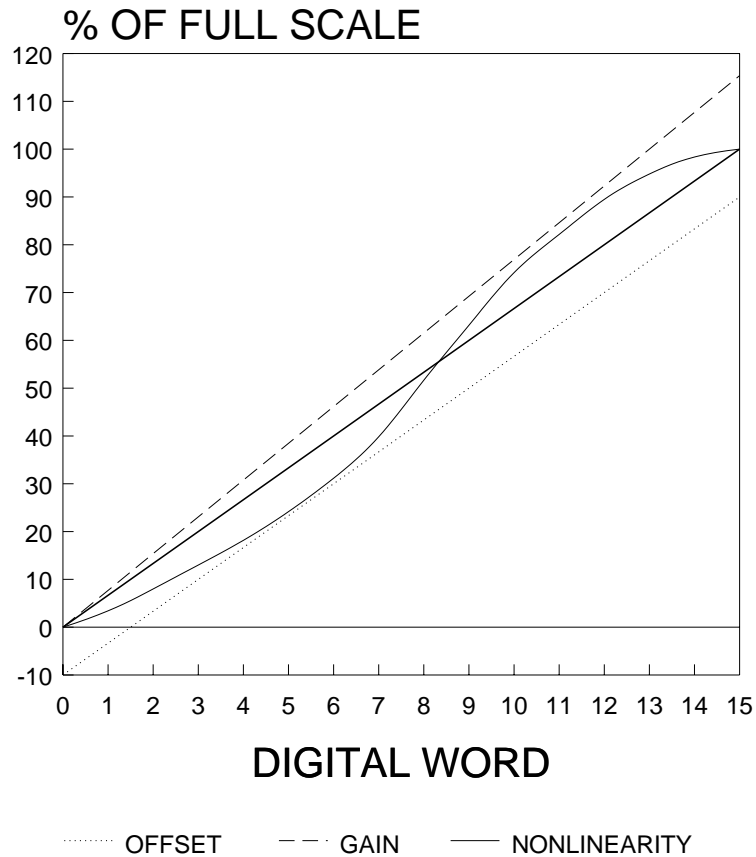

Figure 1
DAC circuits are characterized by a number of parameters such as *dynamic range* (DR), *resolution* (RES), *full scale range* (FSR), *signal to noise ratio* (SNR), *offset error*, *gain error* and *nonlinearity* [1]. Many of these parameters are functions of the number of bits used to represent the analog signal (namely DR and SNR), others are based on the actual circuit construction (errors and linearity). Figure 1 shows an idealized example of the various static errors (offset, gain and linearity) that can be encountered with a DAC [1]. In the figure, the **bold line** represents the ideal DAC transfer characteristic. Gain error, as the name implies, causes an increase (or a decrease) in the full scale output value of the circuit. Offset error describes a shift in the transfer characteristic from its ideal case. Linearity describes the deviation from the ideal case.